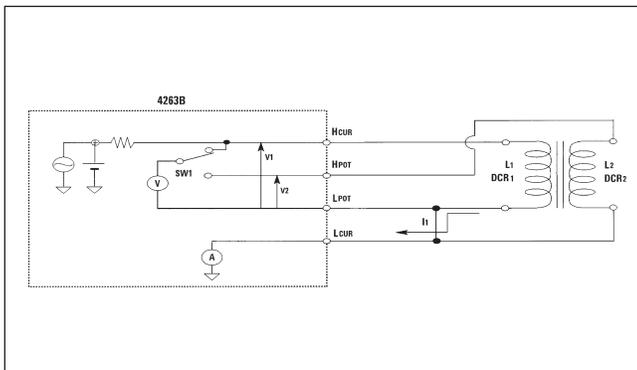

Figure 1. The 4263B block diagram for L, M, and DCR measurement
The 4263B LCR meter is a low price instrument which measures the fundamental parameters of LCR components with speeds as fast as 25ms, at frequencies of 100, 120, 1k, 10k and 100kHz. In addition, with option 001, the 4263B measures turns ratio (N), mutual inductance (M) and dc resistance (DCR) which are required for transformer measurement. Figure 1 shows a 4263B simple block diagram for L, M, and DCR measurement.